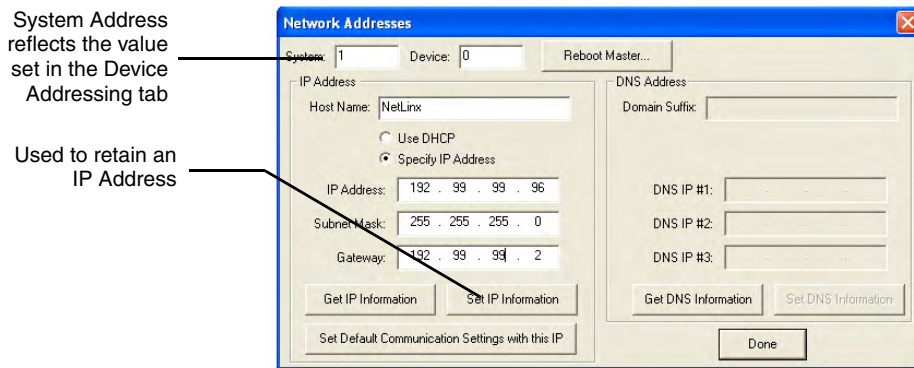

FIG. 37 Network Addresses dialog (for a pre-obtained Static IP Address)
1. Select **Diagnostics > Network Addresses** from the Main menu to access the Network Addresses dialog (FIG. 37).